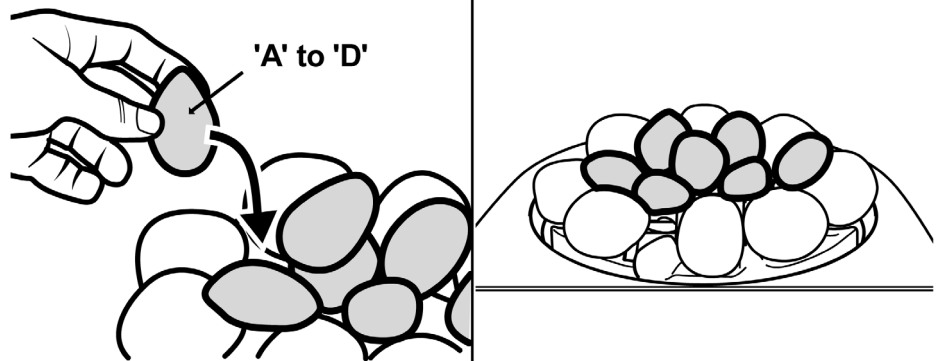

Figure 13. Pebbles lettered 'A' to 'D' location
9. There are seven pebbles lettered 'A' to 'D' on the underside. Locate these evenly over the top of the first layer of pebbles (See figure 13). To optimise the flame picture it may be necessary to position these pebbles away from the centre of the fuel bed allowing more central flames.